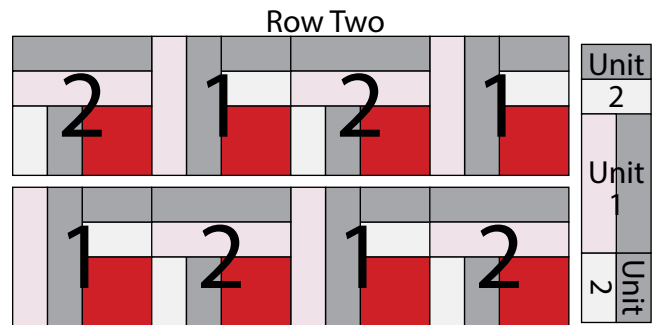

Fig. 6
6. Sew together (4) Block Two squares and (4) Block One squares into a 2 x 4 matrix (Fig. 6). Sew (1) Unit 2 square to the top and to the bottom of (1) Unit 1 strip (Fig. 6). Sew the newly sewn strip to the right end of the 2 x 4 matrix to make Row Two (Fig. 6).